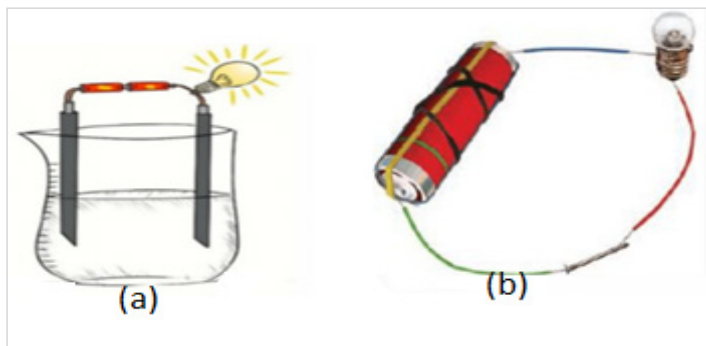

Figure 12.2: *Electrolytic and metallic conductivity*
2. Put the graphite electrodes in the sodium hydroxide solution as displayed in Figure 12.2. (a) What do you observe?
3. Connect a bulb to the batteries by using electric wires as shown in Figure 12.2. (b). What do you observe?